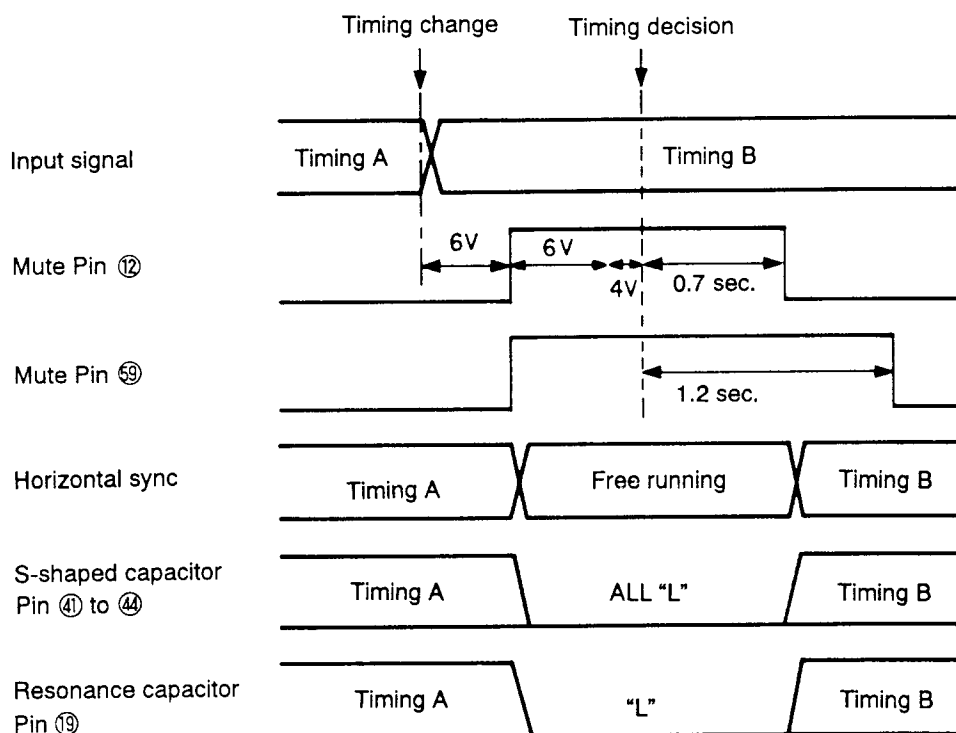

Fig. 3-9 Timing chart
The horizontal sync signal and the vertical sync signal are respectively input to pins ② and ③. Also, the sync polarity discrimination signal from the B1 board is input to pins ⑤ and ③⑨. Its timing is discriminated from these input signals, the picture distortion correction data of the timing is sent out from the memory, outputting to each D/A. The CPU discriminates the timing, and after it is determined, the mute signal ("H" level) is output from pin ①② for approx. 0.7 sec. By this signal, Q6 and Q8 turn on, the H. SIZE becomes low, and the horizontal sync becomes free-running. In the same way, after the timing is determined, the mute signal is also output from pin ⑤⑨ for approx. 2 sec. By this signal, Q2 turns on, the contrast becomes minimum, and the picture becomes dark. The timings of mute are as shown in Fig. 3-9. The 4-bit S-shaped capacitor switching signal is output to pins ④① to ④④ according to the frequency. The LEDs of the front panel are lighted up after the outputs of pins ② to ⑥, ⑥③ to ⑥④ have been passed through the LED driver of IC1.